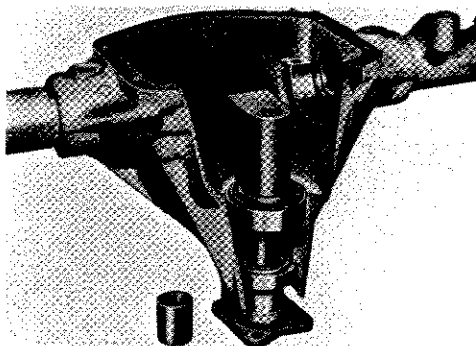
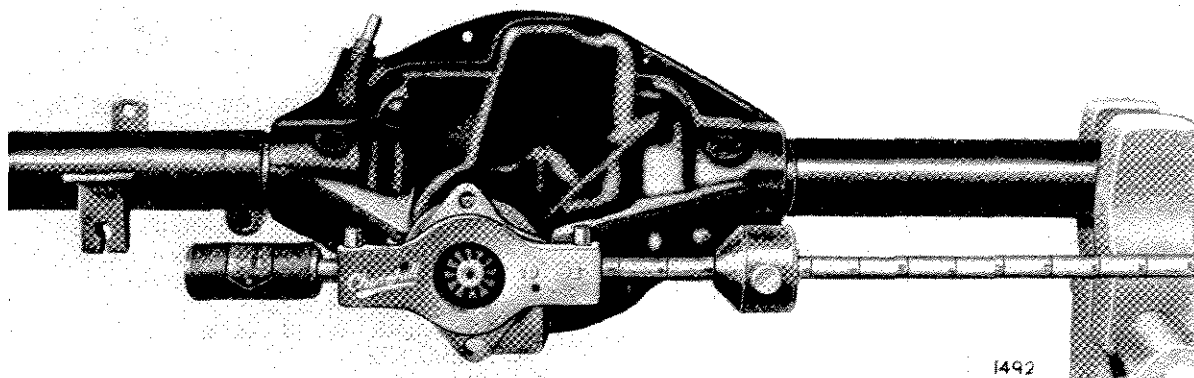

Fig. 19. Showing the dummy pinion installed
Fig. 25. Pre-load gauge 20.SM.98
Fit the pinion head bearing (22) on the dummy pinion (Tool No. M.84) and assemble to casing. Fit the tail bearing (25), driving flange (28), washer (30) and nut (29), Fig. 19. Tighten the flange nut to give a pre-load of 15 to 18 lb. ins. (Fig. 25).
Attach a pre-load gauge on the driving flange as shown on Fig. 25. Slowly move the weight along the graduated scale and note the point at which it falls. This should be 15 to 18 lbs. ins.